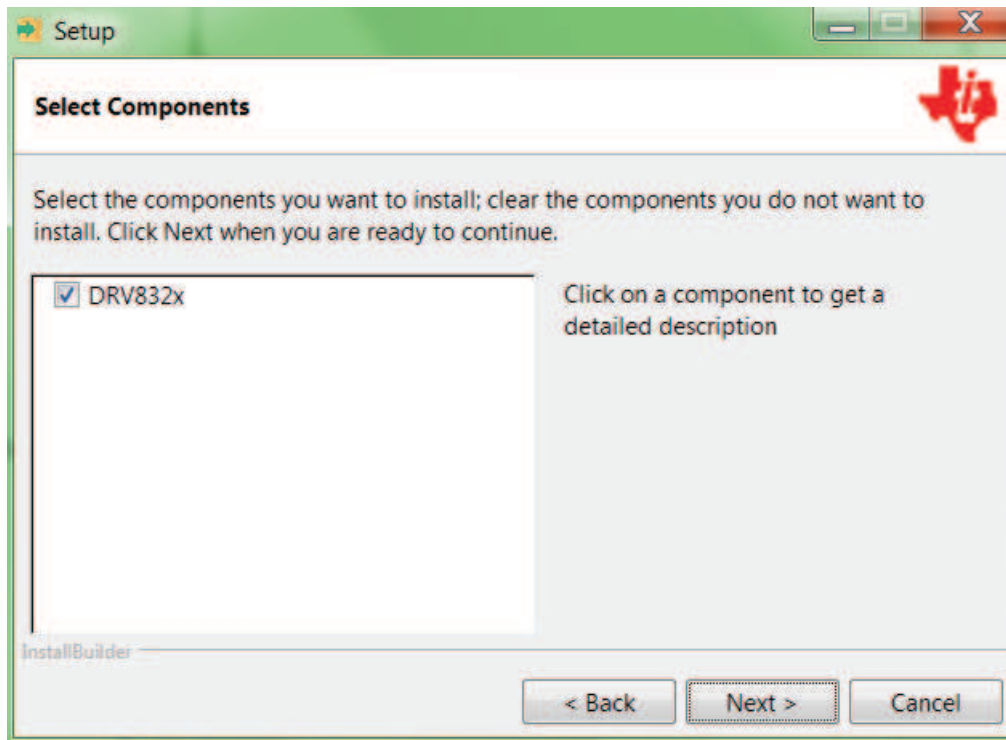

Figure 18. Select Setup Components
- Step 6. Select each DRV8x components to Install (see Figure 18).